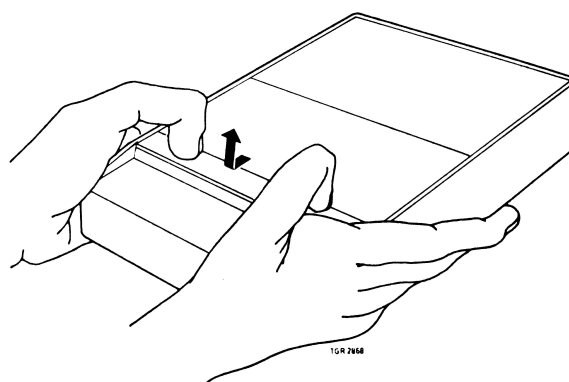

Fig.1
- . Remove the cover over the heads 108 (see Fig. 1)